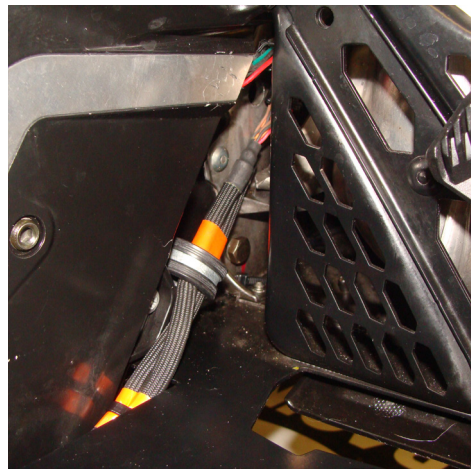

Figure 34
5. Route both harnesses through the second p-clamp (026-01-158 Loop Clamp [.625 in x 0.500 in THK]). Use the existing nut to install the p-clamp to the lower chain-case mounting bolt as shown (Figure 34). Torque to the manufacturer's specification.